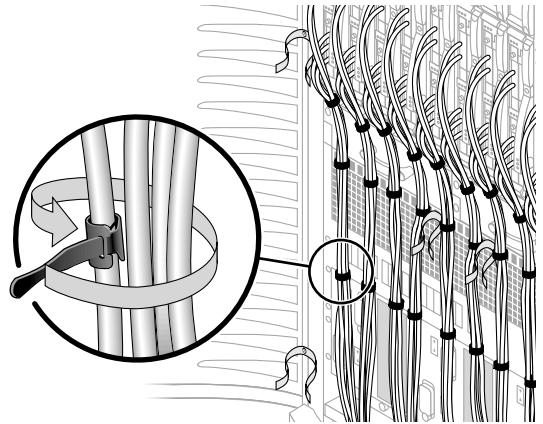

FIGURE 5 Lower I/O Cable Bundle at Power Supply
- At the top of the power supplies, secure a 6.0 in. (15.2 cm) black lite cable strap (No. 4) to one of the cables in each I/O cable set, using the strap insert (FIGURE 5).